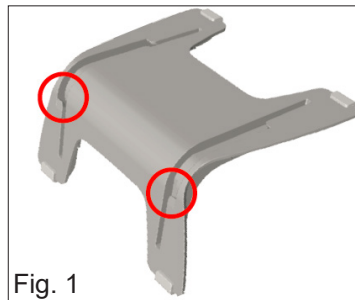
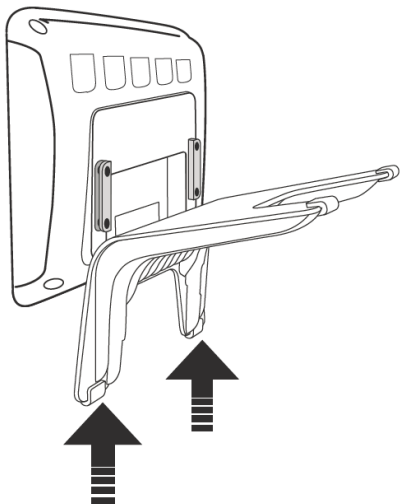

Fig. 1
Fig. 2
1. Place the top of the grooves on the footstand (Fig. 1) below the slideguides on the back of the device (Fig. 2). For the upright position, the short “legs” of the footstand must be attached to the device; for the more horizontal position, use the long ones.
The connector is used to connect the footstand of the first ET6 to the footstand of the phone, the second ET6 to the first one, and the third ET6 to the second one in the daisy-chain. On either side of the connector there are "hooks" (Fig. 5) that fit into the slideguides on the footstand (see Fig.1 in "Attaching the Footstand" on page 8). Insert one of the "hooks" in the slideguide of the footstand of the phone or ET6 and the other one in the slideguide of the footstand on the adjoining ET6, then sled the connector downward until the "hooks" lock into place.